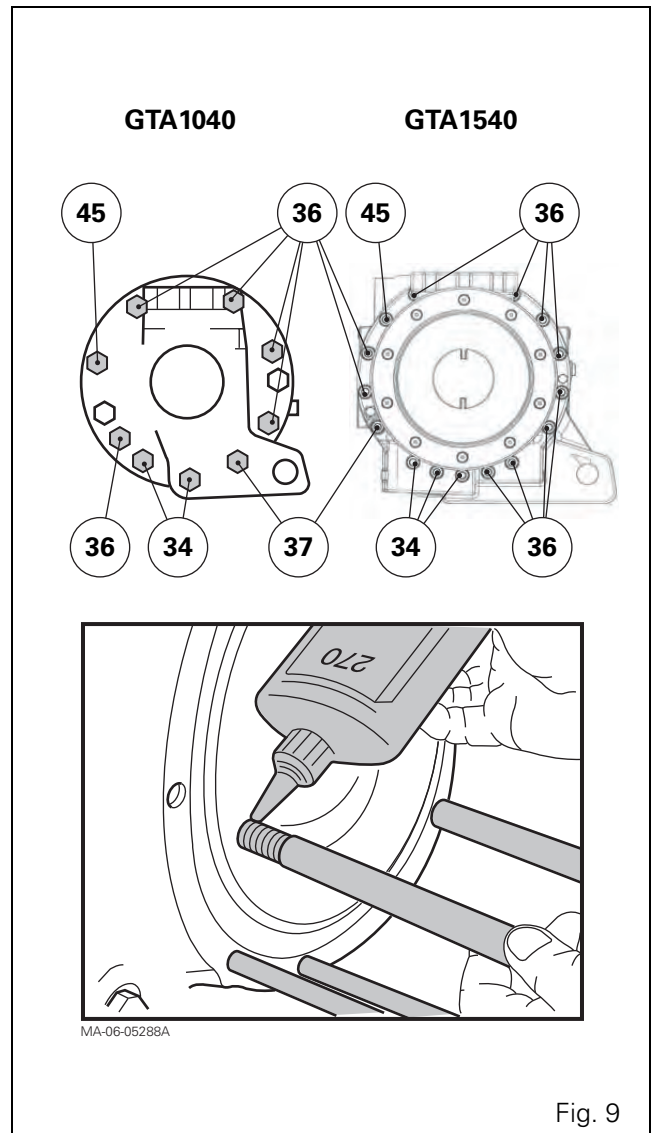

Fig. 9
12. If necessary, replace the defective studs, observing their length and position (Fig. 9 and table below).
Specifications of M16 studs (Fig. 9)
Lightly smear the thread of the new stud(s) (centre housing side) with Loctite 270 or equivalent (Fig. 9). Screw them in and lock them securely.